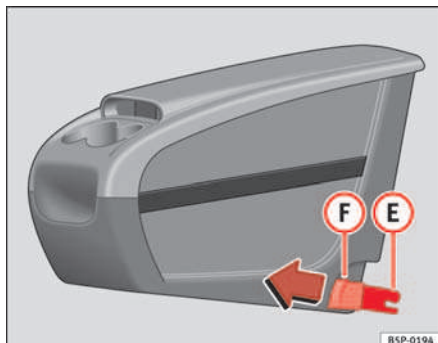
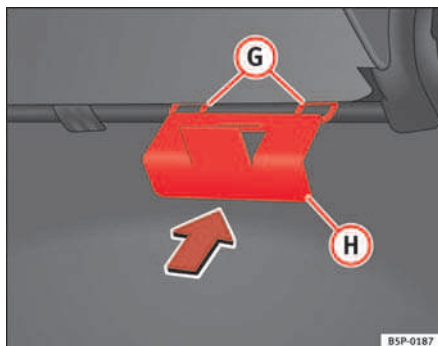

Fig. 109 Mobile stowage compartment installing
Fig. 110 Mobile stowage compartment mounting plate
- Fit the mobile stowage compartment mounting plate **(H)** ⇒ **fig. 110** from the inside of the vehicle, through the rear section of the seat. It should be fitted between the back rest and the seat, in the central seat area.
- Set both mounting pieces together **(E)** ⇒ **fig. 109**, with both mounting rings **(G)** ⇒ **fig. 110** and press hard until both the clips completely connect with the rings.
- Pull each of the buttons ⇒ **fig. 109 (F)** on the clips (red buttons) forwards, until they snap out of place.